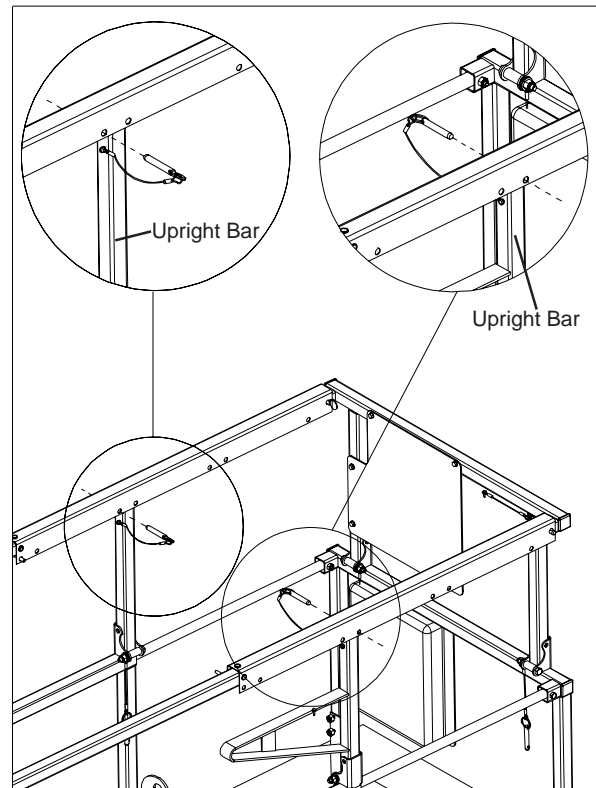

Figure 2-16. Variable Position Manual Extension Deck
2. Upon extension or retraction, reinsert the locking pins. Insert the pin on one side of the machine in front of the upright bar and the pin on the other side of the machine behind the upright bar to prevent accidental movement, in either direction, of the manual extension platform during travel or transport. Refer to Figure 2-16 for a configuration example.